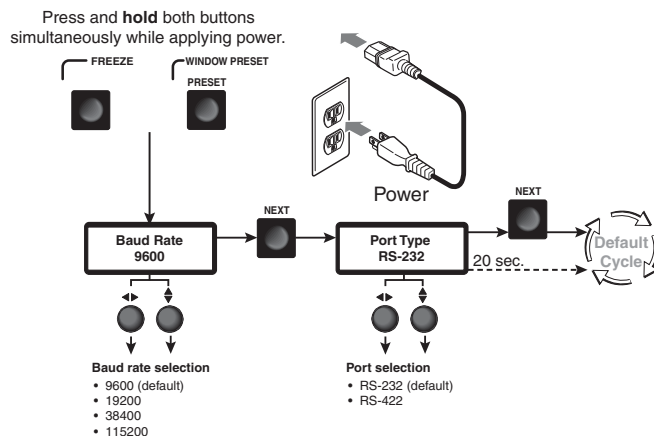

Figure 3-16 — RS-232/RS-422 and baud rate selection
1. To enter *Serial Port Configuration* mode, simultaneously press and **hold** the Freeze button and Preset button while you apply power to the processor (figure 3-16). The processor's LCD displays the baud rate upon completion of the power up process.